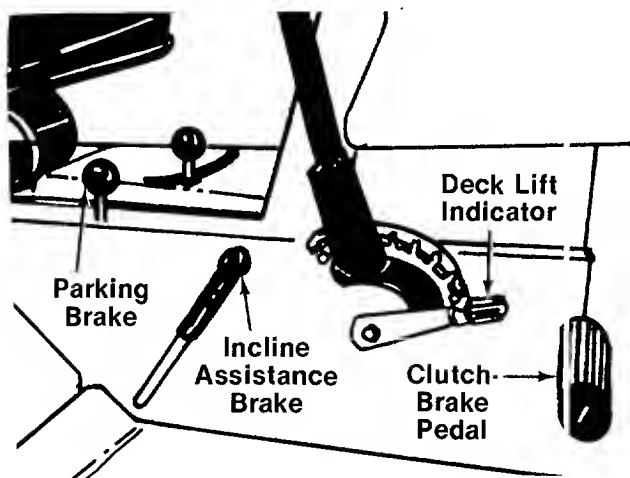

FIGURE 15.
The clutch-brake pedal is located on the right side of the lawn tractor. Depressing the clutch-brake pedal part way disengages the clutch. Pressing the pedal all the way down disengages the clutch and engages the disc brake. See figure 15.
To set the parking brake, depress the clutch-brake pedal and press the parking brake knob down. To release the parking brake, depress and release the clutch-brake pedal. See figure 15.
When stopping on a hill, hold the incline assistance brake lever back while you release the clutch-brake pedal until the lawn tractor begins to move, then release the lever. This lever permits smoother starts and clutch engagement by holding the tractor during the brake release/clutch engagement operation. See figure 15.
The deck lift indicator marks the position being used for the lift lever. Select the lift lever position desired, press the indicator lever outward, move it to the position immediately below the lift lever and release the indicator lever. See figure 15.
2. Depress the clutch-brake pedal and set the parking brake. See figure 15.
3. Place the lift and disengagement lever in the DISENGAGED position. See figure 15.